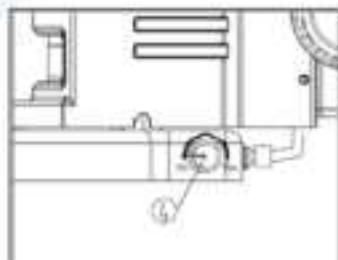

Fig.7
- Rotate the light adjustment knob (4) to adjust the illumination brightness. Rotate the light adjustment knob clockwise to raise the brightness, while counter-clockwise to decrease the brightness. (See Fig.7)